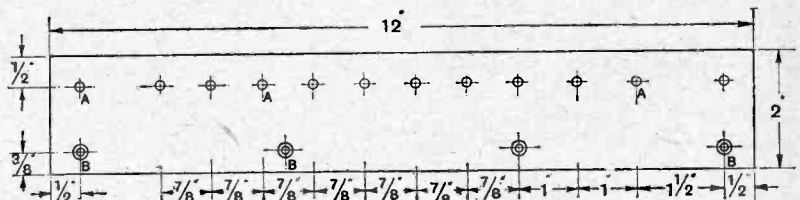
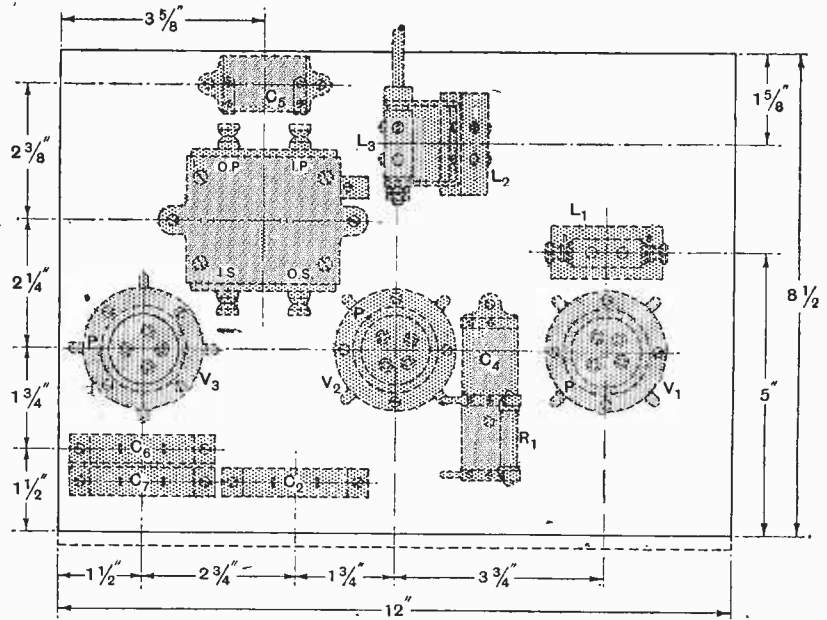

Fig. 3.—The terminal strip A = 4 B.A. clearance holes; B =  $\frac{1}{8}$ in. dia.
Fig. 4.—Arrangements of parts on the base.
Mounted on the baseboard, Fig. 4, are the three valve holders, a single coil holder for  $L_1$ , a two-coil holder for  $L_2$  and  $L_3$ , the grid condenser and leak  $C_4 R_1$ , the intervalve transformer with its bye-pass condenser  $C_5$ , the three large condensers  $C_2$ ,  $C_6$ , and  $C_7$ , and the terminal strip. The terminal strip measures 12 in.  $\times$  2 in.  $\times$   $\frac{1}{4}$  in., and carries 12 No. 4 B.A. terminals, as indicated in Fig. 3. It will be observed that the two-coil holder is mounted at an angle with the baseboard; this is to allow a larger movement of the reaction coil, and is effected in this receiver by bending the brass feet used as supports to a suitable angle. The aerial coil is fixed at right angles to the anode and reaction coils to prevent magnetic coupling.
Fig. 3.—Amplification-frequency curves for experimental transformer of varying turns ratio. The turns ratio is not the only criterion of the amplification obtainable.
Some tests on a transformer having the following constants are illustrated in Fig. 3. The core consisted of stampings of dubious quality, comparatively few in number, and butting badly at the joints. This, together with the disposition of the windings, probably introduced
considerable magnetic leakage between primary and secondary. The winding was in four layers, the inner three having 2,000 turns each, and the outer one 8,000. In curve (B) the second and third layers formed the primary, and the first and fourth the secondary. Thus the turns ratio was 2.5/1. The primary inductance was 10 henries. In curve (A), Fig. 3, the first and third layers formed the primary, and the second and fourth the secondary. The turns ratio, therefore, remained unchanged, but the capacity and leakage were altered. This was sufficient to affect the maximum amplification by more than 10 per cent. In curve (C) the third layer was used as primary, with an inductance of only 2.7 henries, while the first, second, and fourth formed the secondary. It will be seen that nothing approaching a 6/1 step-up of voltage was obtained even at the maximum.